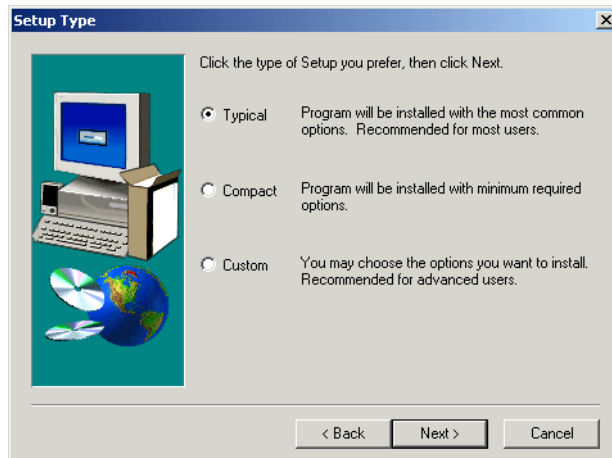

Figure 9-12 SDD installation - setup type
7. The Setup panel is displayed (as shown in Figure 9-12). Select the type of setup you prefer from the following setup choices: